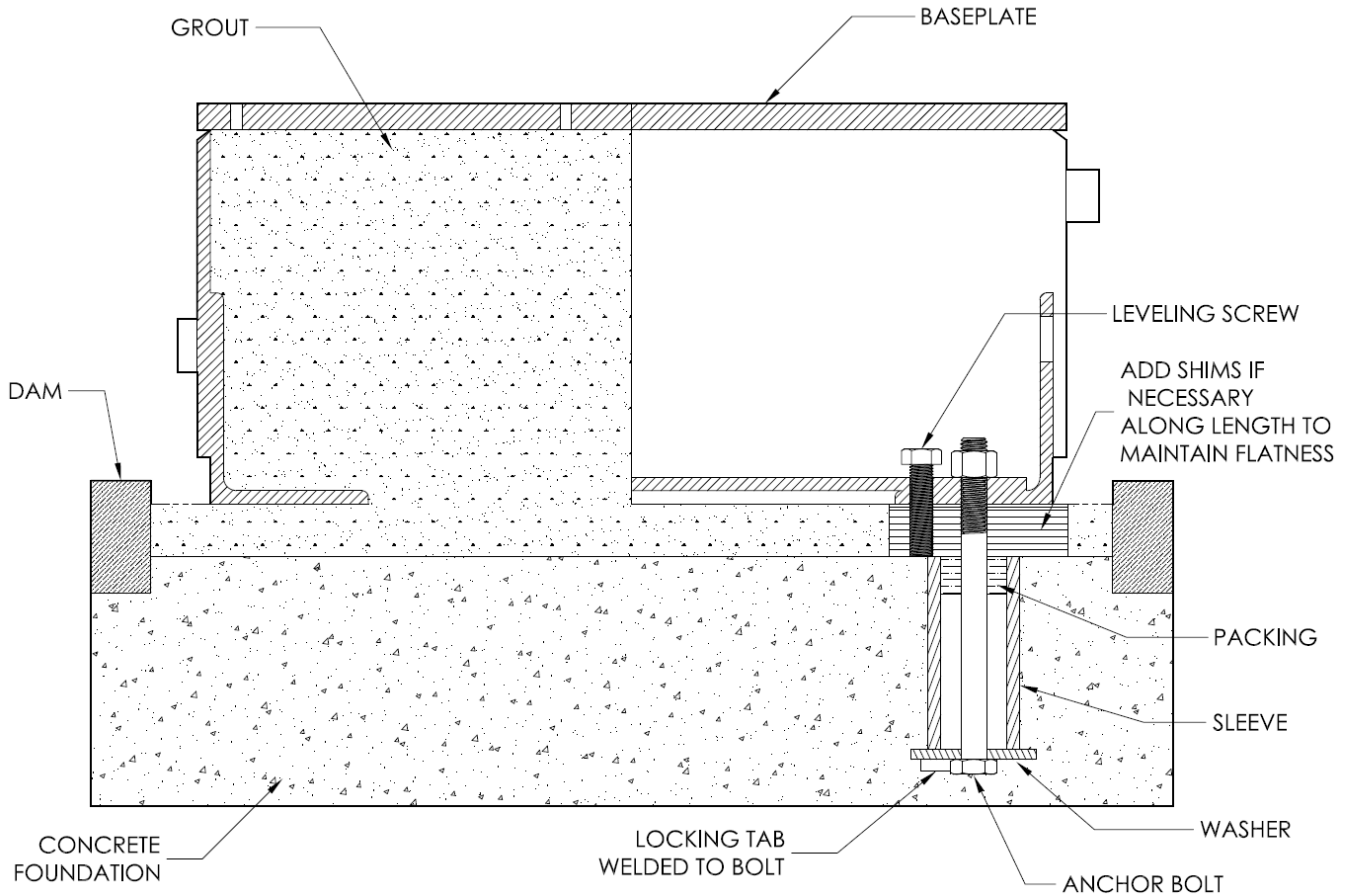

Figure 20: Grouted Mount Baseplate
3. Recommended mass of a concrete foundation should be at minimum three times that of the pump, motor and base. Refer to Figure 20